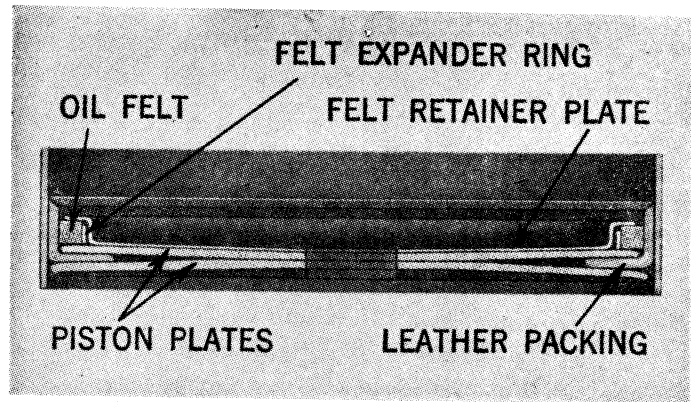

Fig. 20 Piston assembly in assembly ring
13. Assemble front piston in assembly ring, Fig. 20.
19. Place felt retainer plate over felt and felt expander ring, Fig. 20. Register opening squarely over loop in expander ring.